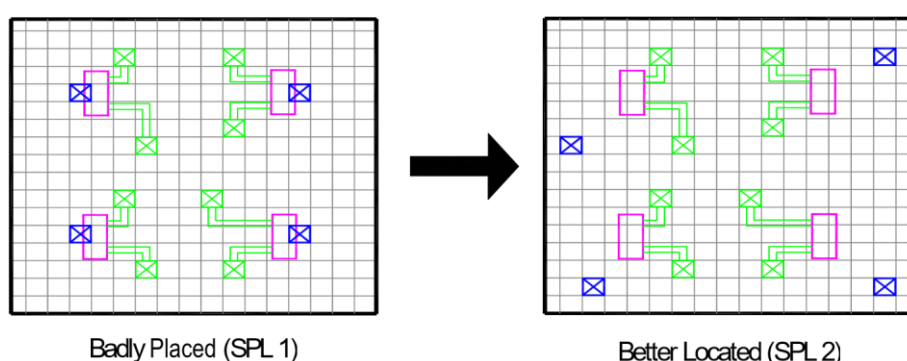
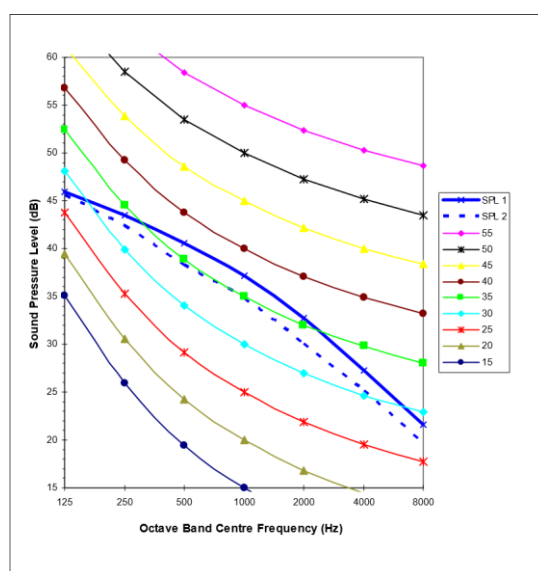

Figure 3 - Badly Placed and Better Located Return Grilles
Figure 4 - NR Curves Showing effect of better located Grilles
- with a ceiling void installation beware of the poorly placed return grille, positioned directly under or near the fan coil unit air inlet and therefore close to occupants, see Figure 3, as this can increase overall noise levels by 3-4dB, see effect on NR curve in Figure 4